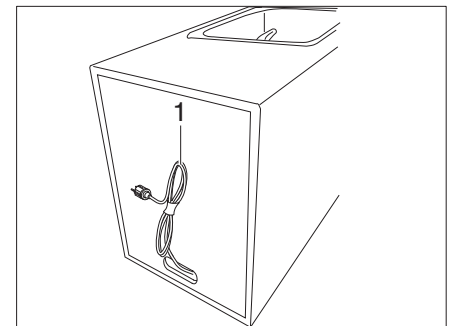

Fig. 20 Power cable for the lithium battery
- If necessary, remove the power cable (Fig. 20,1) on the back of the flushing module.